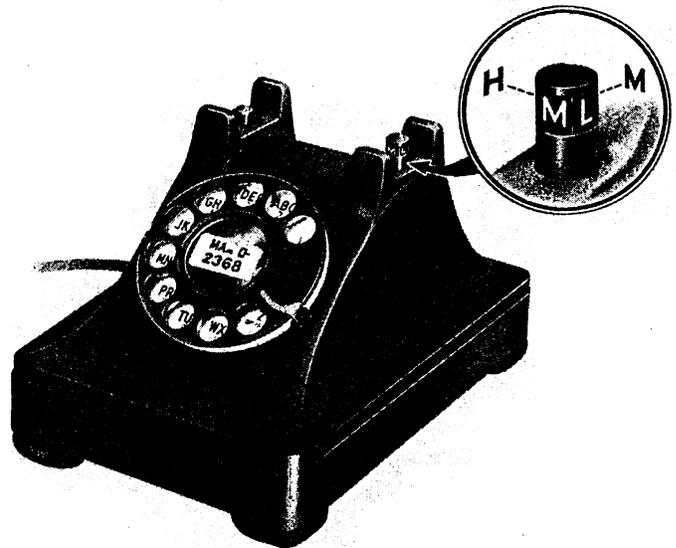

Fig. 10 — 332C or 334C Telephone Set — Exterior
**2.09** The 332- and 334-type telephone sets, shown in Figs. 10 and 11, provide amplification for incoming speech by the addition of the 111B amplifier. The right-hand plunger serves as an on, off, and volume-control switch. The plunger can be rotated in either direction to select one of three volumes: low (L), medium (M), and high (H). The volume in use is determined by the designation facing the front of the set. These telephone sets require a 4-1/2-volt dc battery for operation of the amplifier. See the C Section entitled Dry Cell Batteries and Battery Boxes.